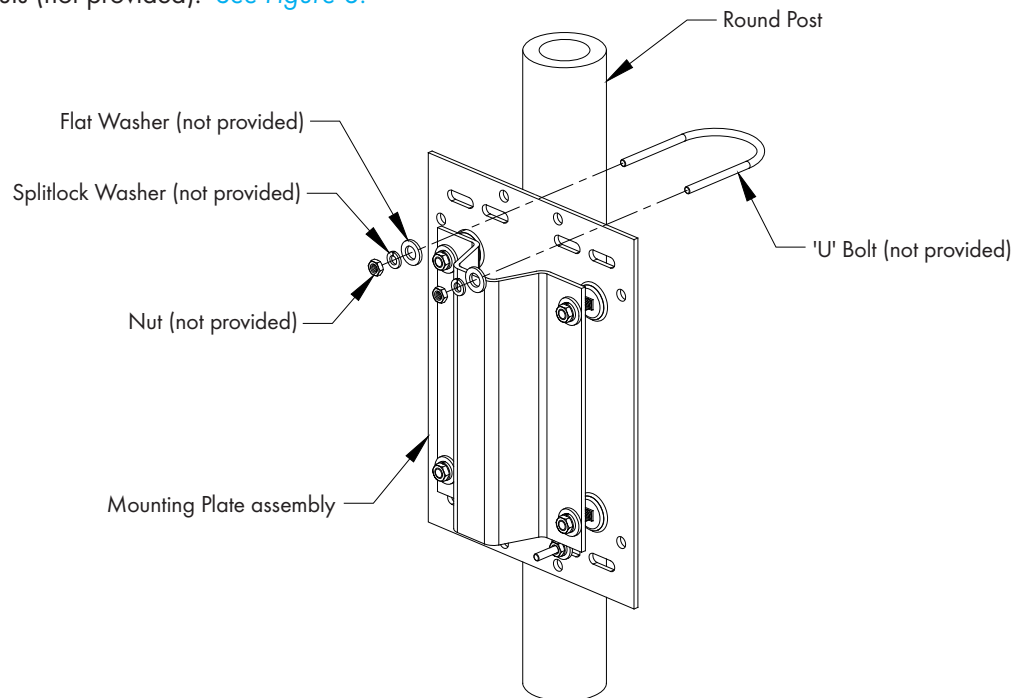

Figure 8
Attach Mounting Plate assembly to round post using (2) 'U' bolts and flat washers, lock washers and nuts (not provided). See Figure 8.